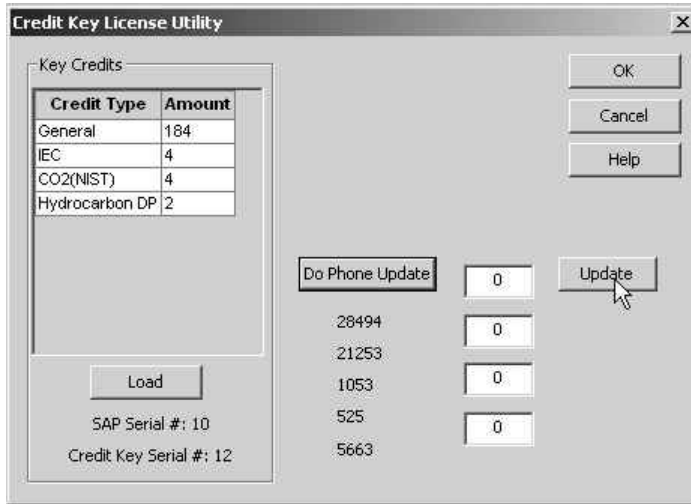

Figure 59: Application credit entry screen
- The clerk will ask for the five (5) encrypted codes that appear directly beneath *Do Phone Update*. Read them from top to bottom (Figure 59).